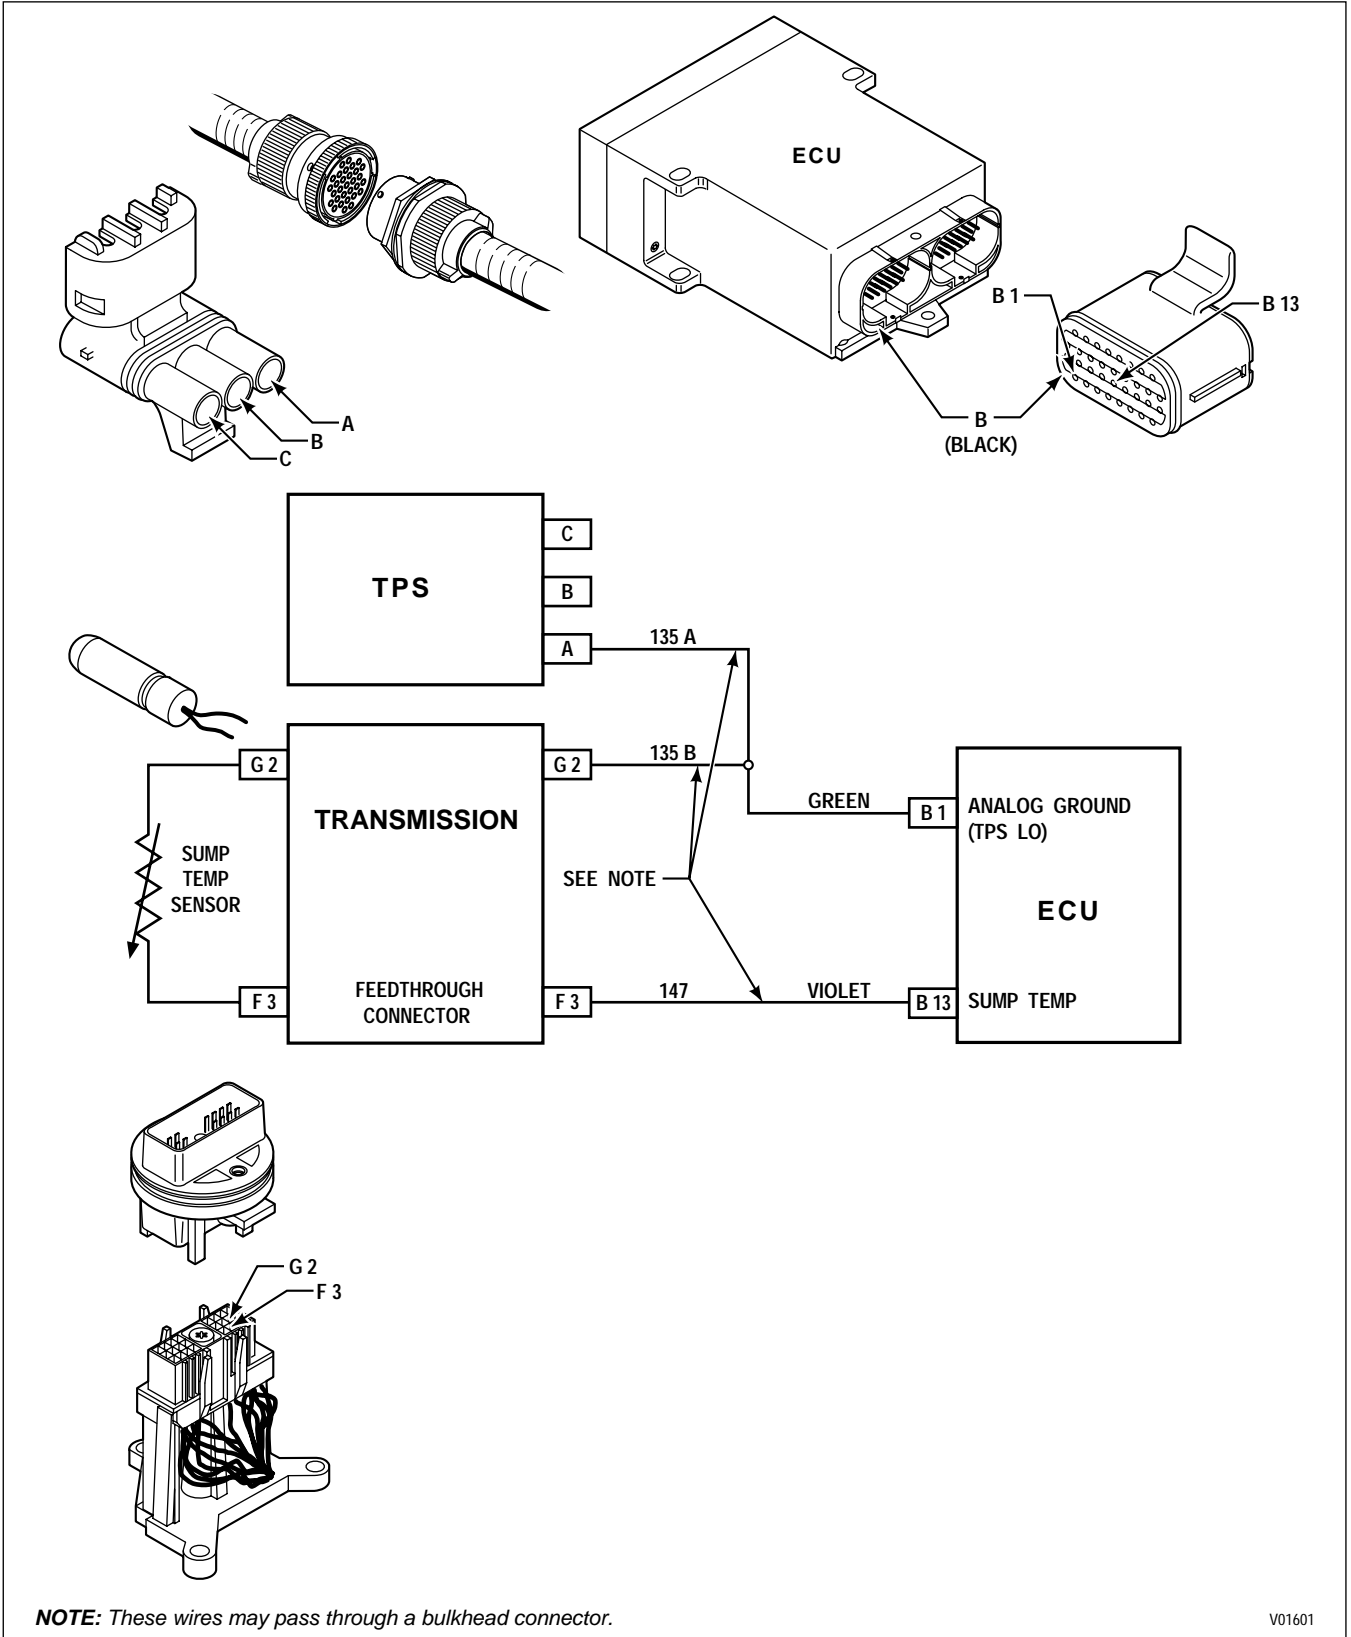

Figure 6-10. Code 24 Schematic Drawing (Units Produced Prior To 9/94)
**CODE 24 XX — SUMP FLUID TEMPERATURE** (Figures 6-10, 6-11)